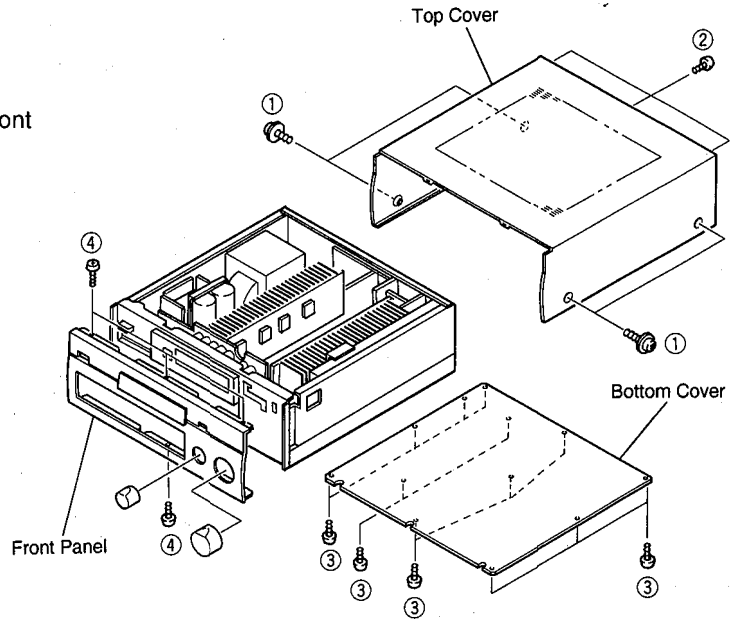

Fig. 1
- a. Remove 4 screws (①) and 3 screws (②) and then remove the Top Cover in Fig. 1.
- a. Remove 12 screws (③) and then remove the Bottom Cover in Fig. 1.
- a. Remove 2 knobs in Fig. 1.
- b. Remove 4 screws (④) and then remove the Front Panel in Fig. 1.